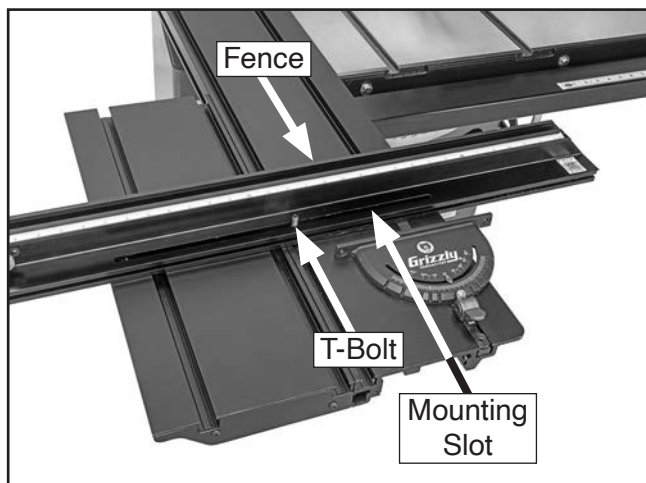

Figure 16. Fence installed over T-bolt.
35. With scale facing up and beveled end facing blade, slide fence mounting slot down over T-bolt (see **Figure 16**).